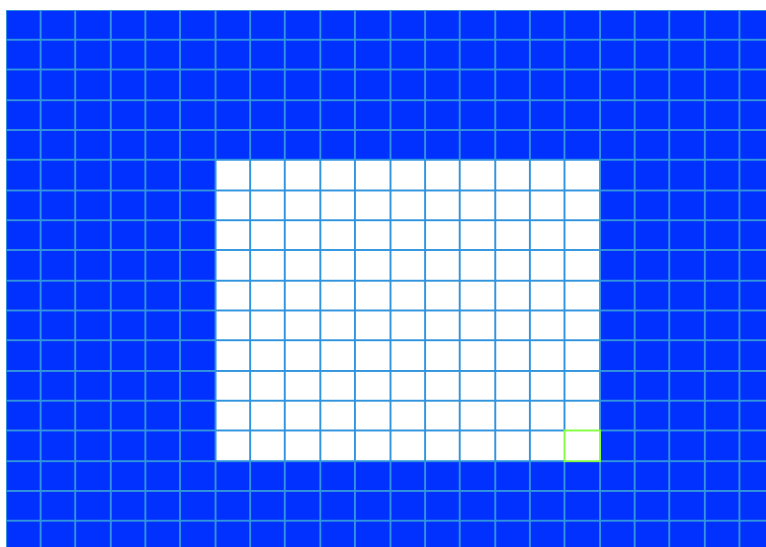

Figure 4-79
- Region: This item is for motion detect only. Click select button, the interface is shown as in Figure 4-79. Here you can set motion detection zone. There are 396(PAL)/330(NTSC) small zones. The green zone is current cursor position. Grey zone is the motion detection zone. Black zone is the disarmed zone. You can click Fn button to switch between the arm mode and disarm mode. In arm mode, you can click the direction buttons to move the green rectangle to set the motion detection zone. After you completed the setup, please click ENTER button to exit current setup. Do remember click save button to save current setup. If you click ESC button to exit the region setup interface system will not save your zone setup.